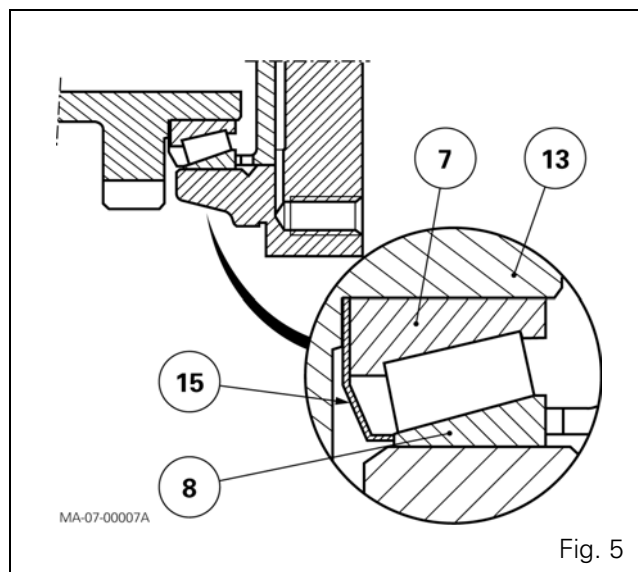

Fig. 5
25. Take out screw (6) and washer (5).
26. Separate the pinion (13) from the shaft (2).
NOTE: A deflector (15) is fitted between pinion (13) and the bearing cone (7) in contact with the bearing cup (8) (Fig. 5).